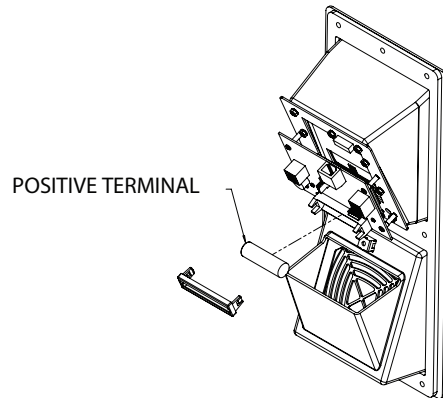

Figure 65. Removing and Installing the AA Battery on the Control Panel
8. Refer to Figure 65.
1. Refer to Figure 65.